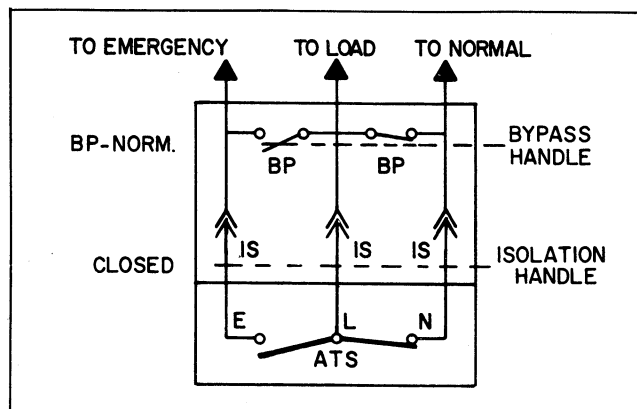

Figure 15. Source Bypass
3. Close Isolation contacts as follows (Figure 15).